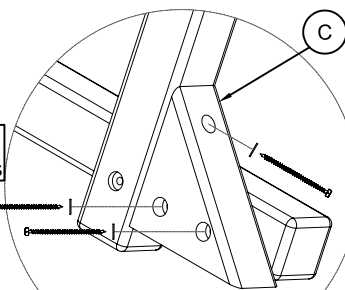

fig. 2
Attach (4) angle support brace C to the outside of each angled fort legs B and ground beams N using (3) 4 1/2" lag screws and 5/16" flat washers per angle support brace as shown in fig. 2.